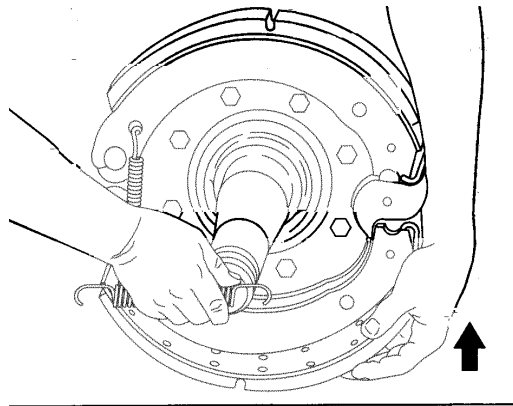

Fig. 2, Remove the Spring
- 5.3 Lift the bottom shoe to release tension on the brake return spring. Remove the spring. See Fig. 2.